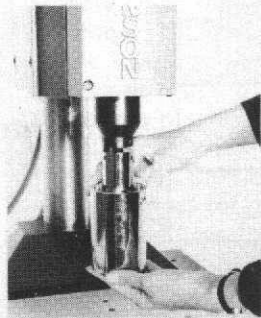

figure 4
5. Close the carriage door, tighten the two screws and hand assemble the converter to the booster [Figure 4]. Tighten the converter securely with the spanner wrench (220 inch-lbs./24, 85 newton-meter). **DO NOT OVERTIGHTEN.**